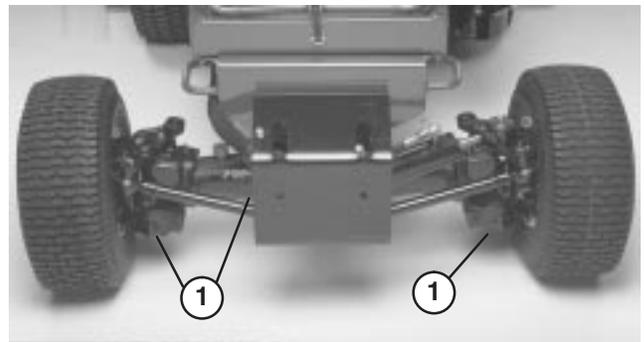

Figure 67
2. Clean area around the drain plugs (Fig. 67).